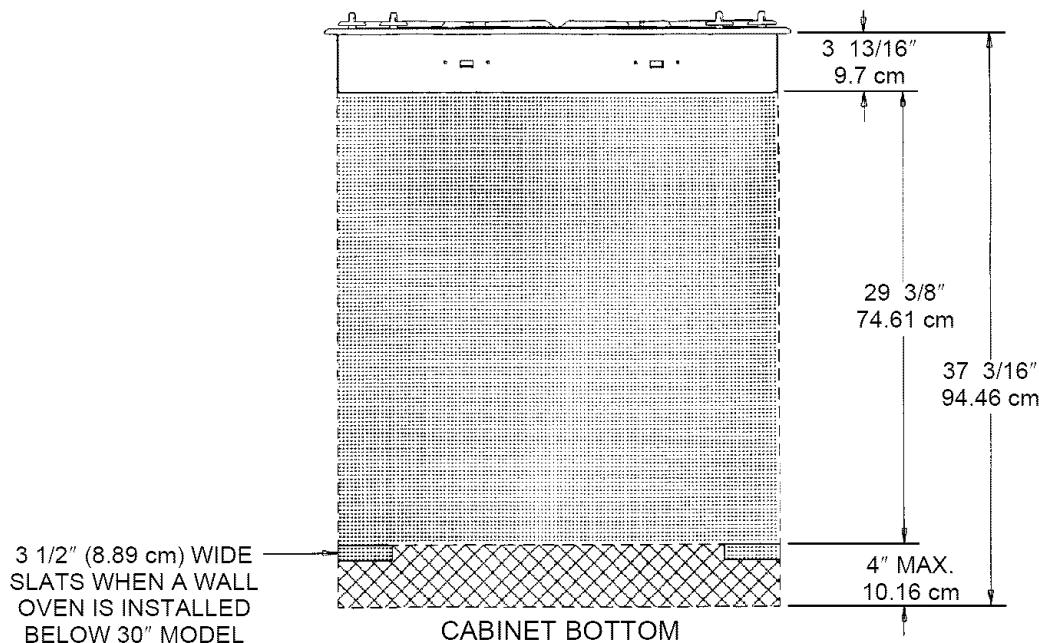

FIGURE 6
NOTE 1: This appliance and its gas and electrical supply sources must be installed before the wall oven is installed. See illustration (Electrical Wiring Information - page 7; figure 6) for recommended electrical supply source locations.
This appliance is equipped with a grounded type power cord. A grounded outlet must be provided. It is recommended, for convenience, the outlet be located (with reference to figure 6) as in A or B, below:
- A. If no other appliance is to be installed below this appliance: within either the shaded area or the cross hatched area shown in figure 6.
1. within the cross hatched area of figure 6, or,
- If a wall oven is to be installed below this appliance and the counter units outlet is to be mounted within the cross hatched area of figure 6: